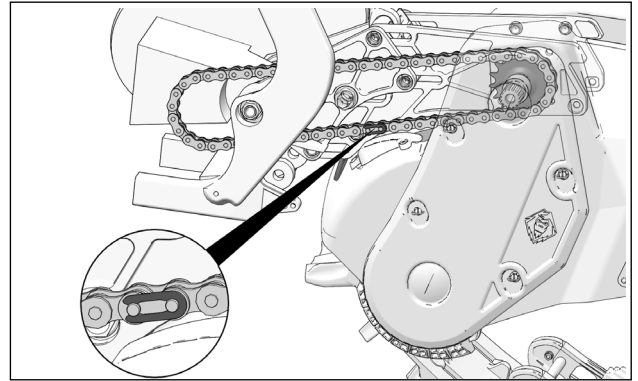

Figure 28
- Install the provided chain on the engine sprocket and join the ends using the master link. See Figure 28.